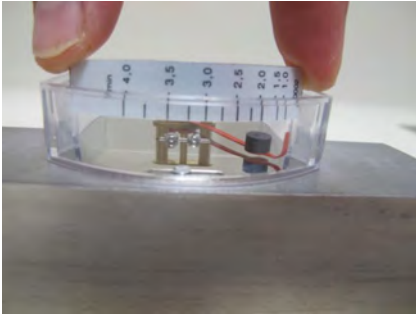

Fig. 64
15. Slide the scale holder (with the affixed scale) into the guide of the plastic housing (Fig. 64). Note direction of flow (lower scale value toward the input side of the device).